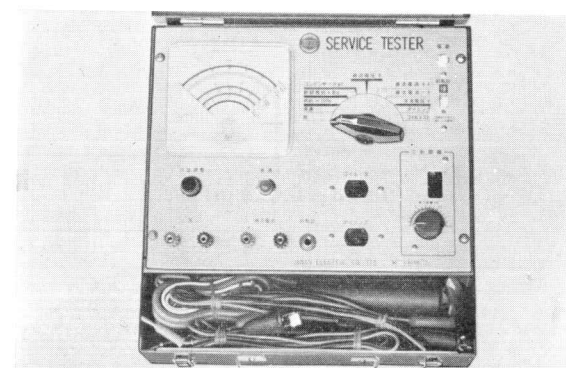

Figure 6-9. Service tester
- Position the switch on the tachometer to "connect", insert the plug from the tachometer into the jack on the tester marked "Jack". The 6,000 rpm is read off the green zone of the meter dial. (Fig. 6-9)